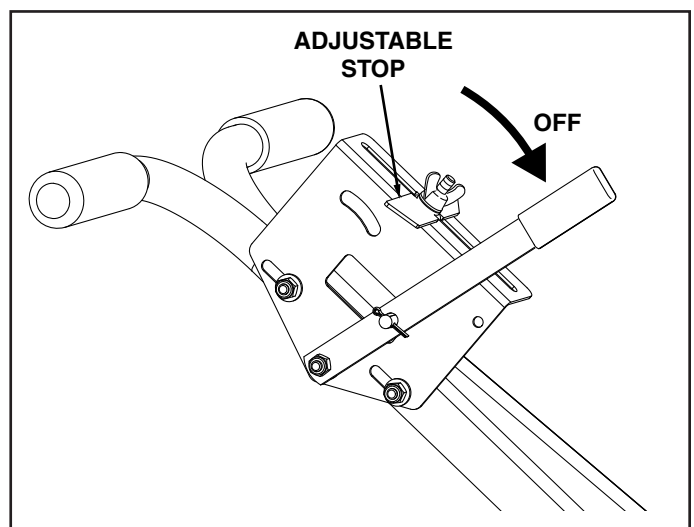

FIGURE 11
- Push the flow control lever to the "OFF" position and ensure the closure plate closes completely. See figure 11.